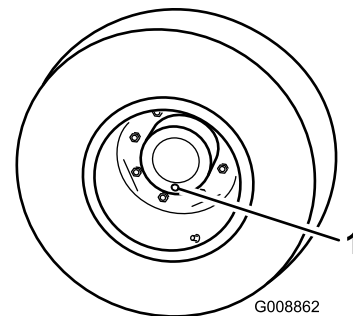

Figure 54
1. With the machine on a level surface, position a wheel so that a check plug is at the lowest (6 o'clock) position (Figure 54).